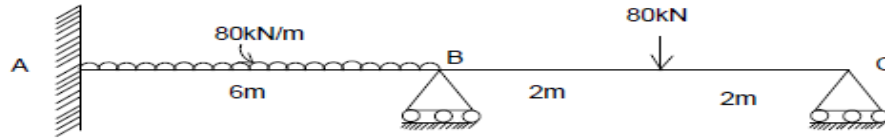

Figure 3
12. (a) Analyse the continuous beam shown in fig 3. By stiffness matrix CO2- Ana (16)